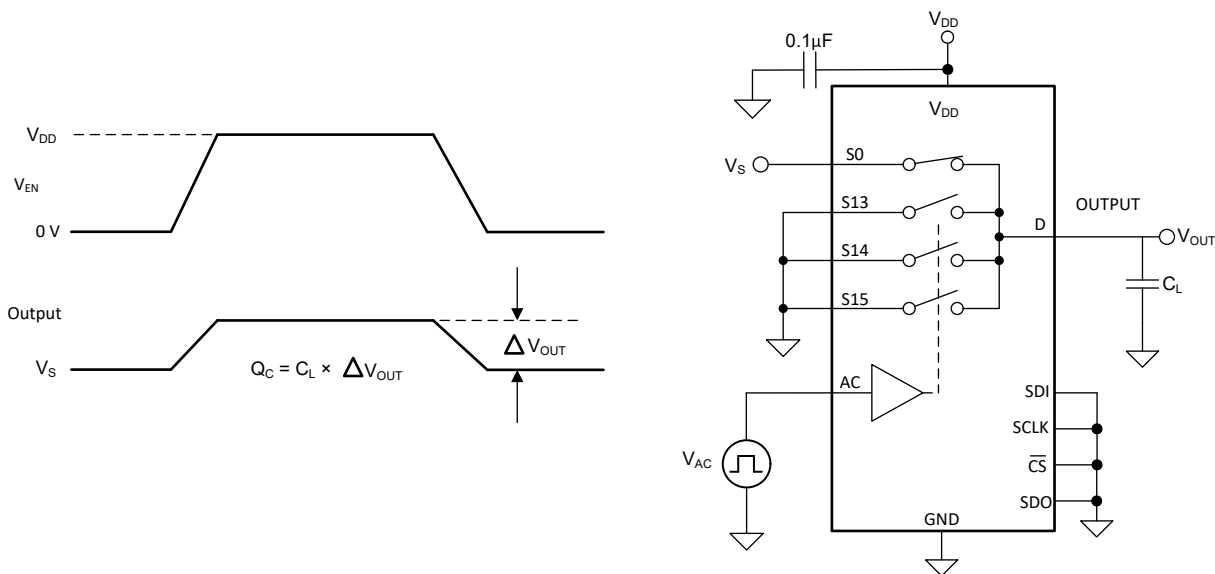

Figure 7-7. Charge-Injection Measurement Setup
The TMUXS1306A and TMUXS1307A device have a transmission-gate topology. Any mismatch in capacitance between the NMOS and PMOS transistors results in a charge injected into the drain or source during the falling or rising edge of the gate signal. The amount of charge injected into the source or drain of the device is known as charge injection, and is denoted by the symbol Q_C . Figure 7-7 shows the setup used to measure charge injection from source (Sx) to drain (D).